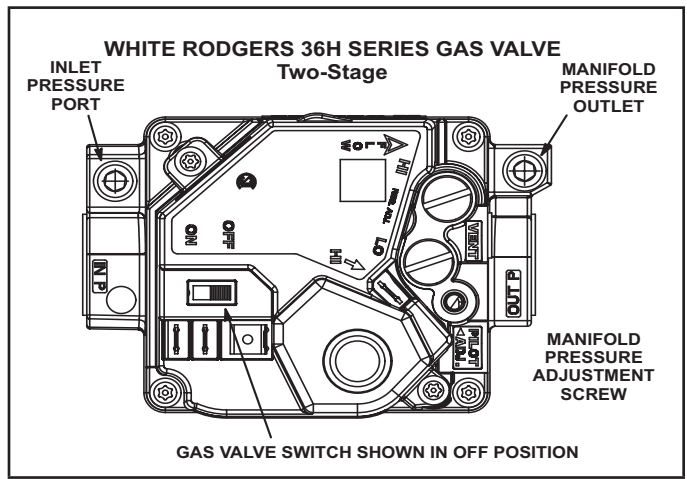
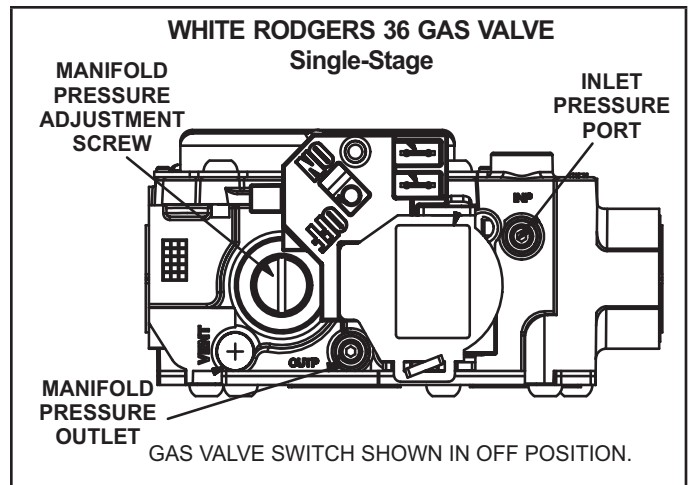

FIGURE 9
FIGURE 10
The heater and its individual shut off valve must be disconnected from the gas supply piping system during any pressure testing of that system at test pressures in excess of 1/2 psig (3.45kPa). See figure 9.
OPERATION OF WHITE RODGERS 36H SERIES VALVE (FIGURE 9) AND WHITE RODGERS 36G SERIES GAS VALVE (FIGURE 10)
- 2 - After line pressure has been checked and adjusted, check regulator pressure. Correct manifold pressure is shown on the unit rating plate. See figures 9 and 10 for gas pressure adjustment screw location. A natural gas to LP/propane gas changeover kit is required to convert the unit in the field. Refer to installation instructions provided with changeover kit for conversion procedure.